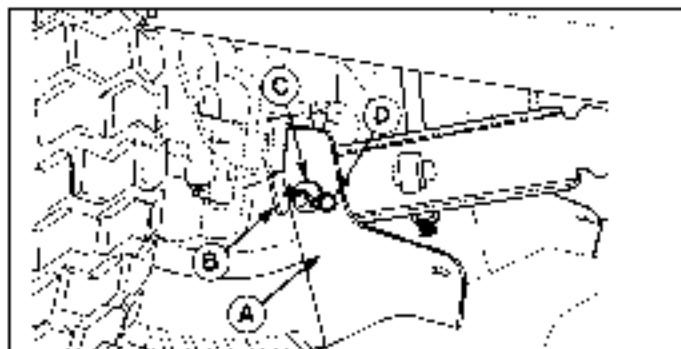

Figure 14. Lift Arms
- Remove hair pin (D, Figure 14) and washer (C). Disconnect the mower lift plates (A) from the tractor lift arms (B). Reinstall washers (C) and hair pins (D) to prevent loss.
- Reinstall hair pins (D, Figure 14) and washers (C) into the mower lift plates (A) and the tractor lift arms (B).